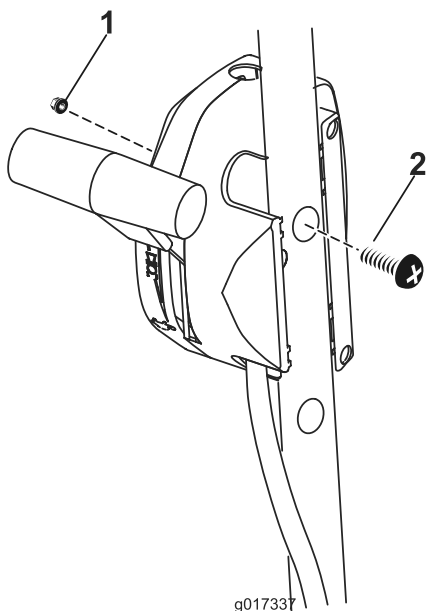

Figure 5
6. Attach the throttle assembly to the outside of the handlebar and secure it with a nut and a pan screw (Figure 5).